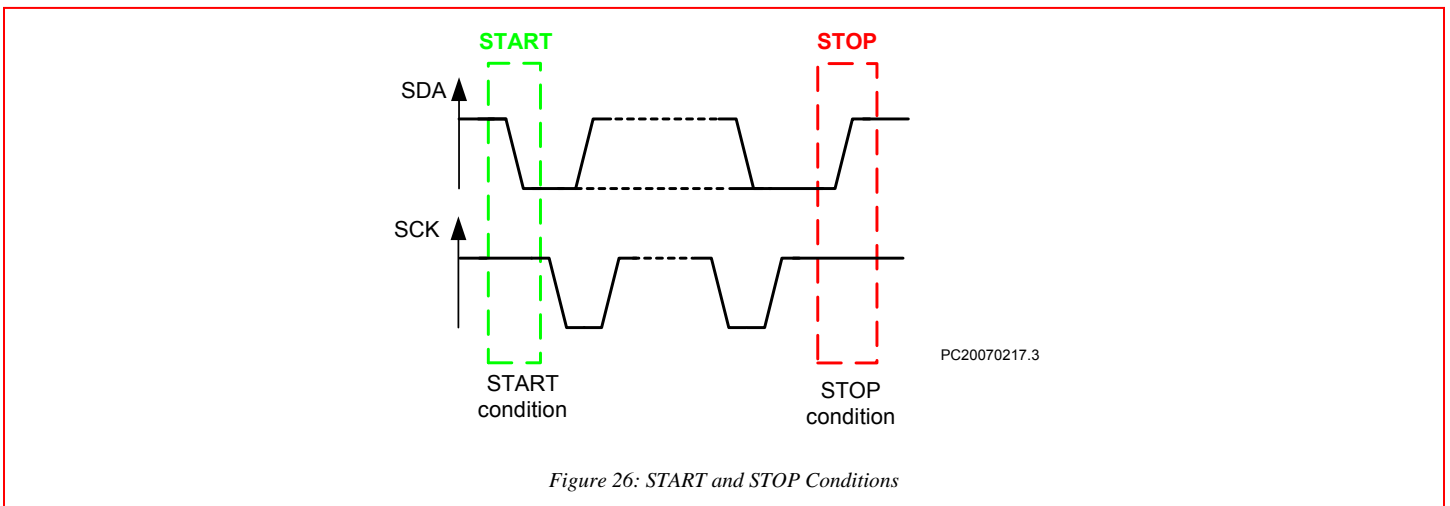

Figure 26: START and STOP Conditions
Within the procedure of the I2C-bus, unique situations arise, which are defined as START (S) and STOP (P) conditions (See Figure 26). A HIGH to LOW transition on the SDA line while SCK is HIGH is one such unique case. This situation indicates a START condition. LOW to HIGH transition on the SDA line while SCK is HIGH defines a STOP condition.